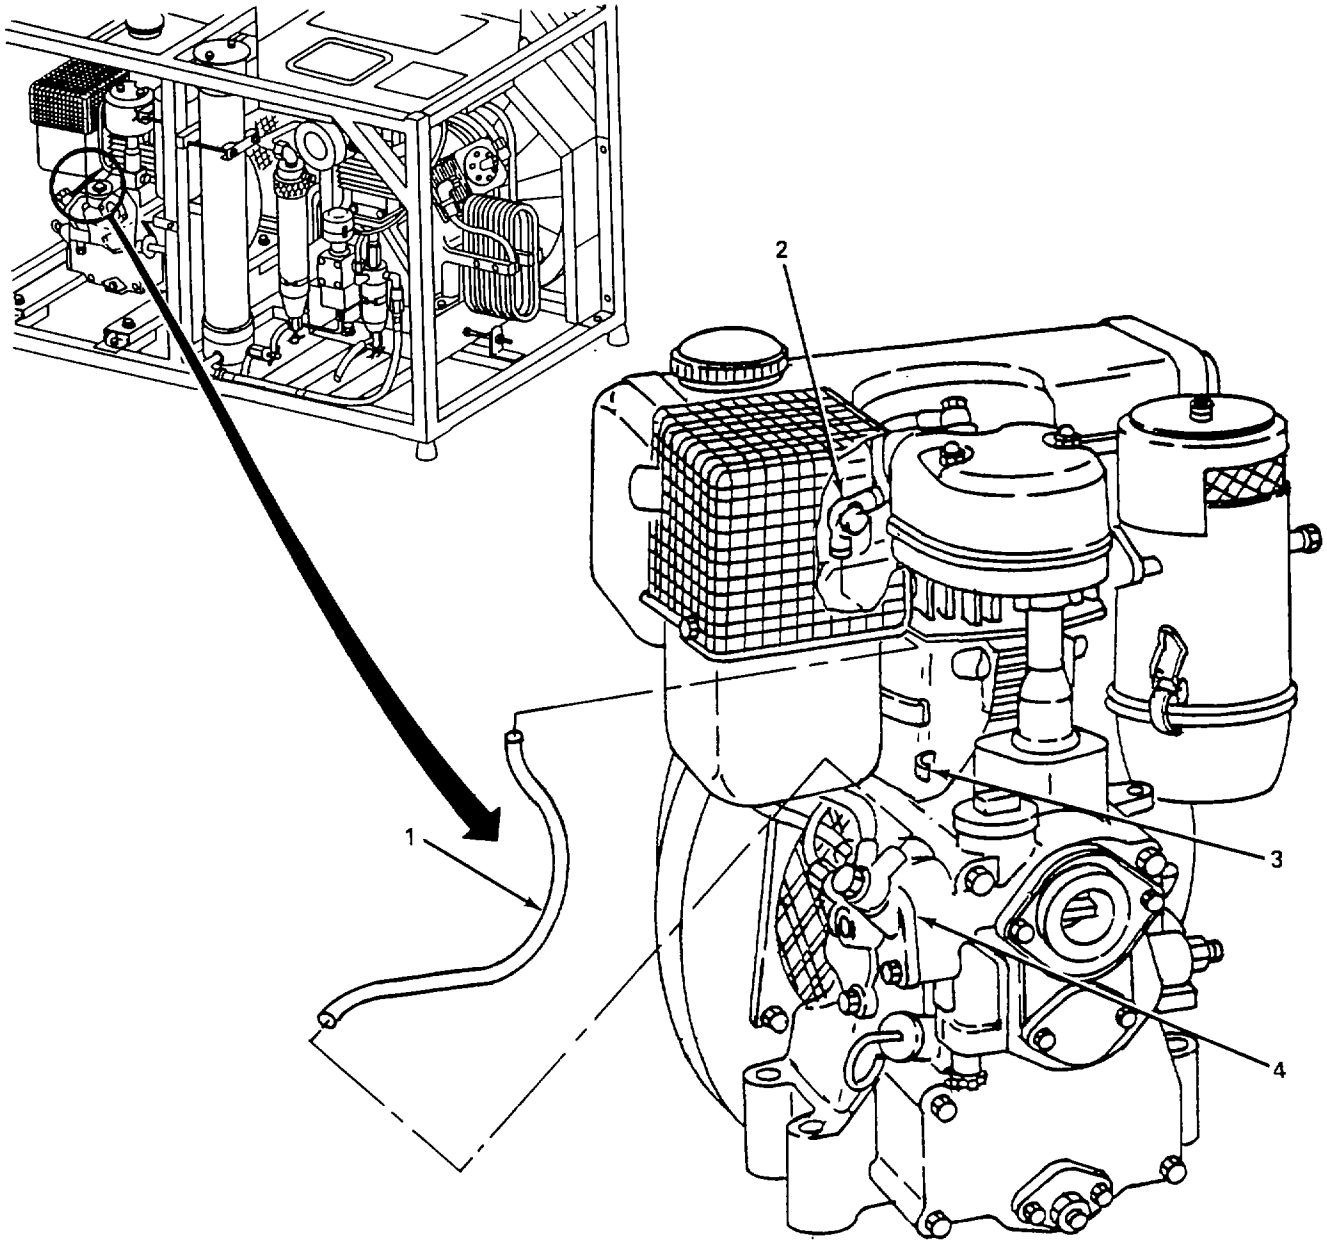

Figure 4-20. Injector Pump Overflow Line, Replace.
- (4) *Injector pump overflow line.* (figure 4-20)
- (a) Disconnect fuel line (1) from fuel tank fitting (2).
- (b) Bend tab (3), securing fuel line (1), out.
- (c) Disconnect fuel line (1) from injector pump (4) and remove fuel line (1).
- (d) Connect new fuel line (1) to injector pump (4).
- (e) Route fuel line (1) up to tank (2) and connect fuel line (1).
- (f) Bend tab (3) to secure fuel line (1).